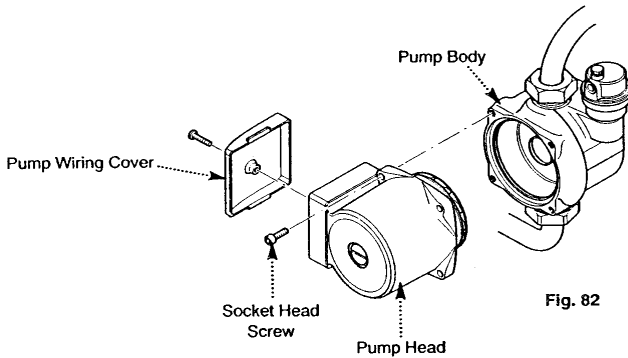

Fig. 82
**11.20 Pump - Head Only** (Figs. 82 & 83).